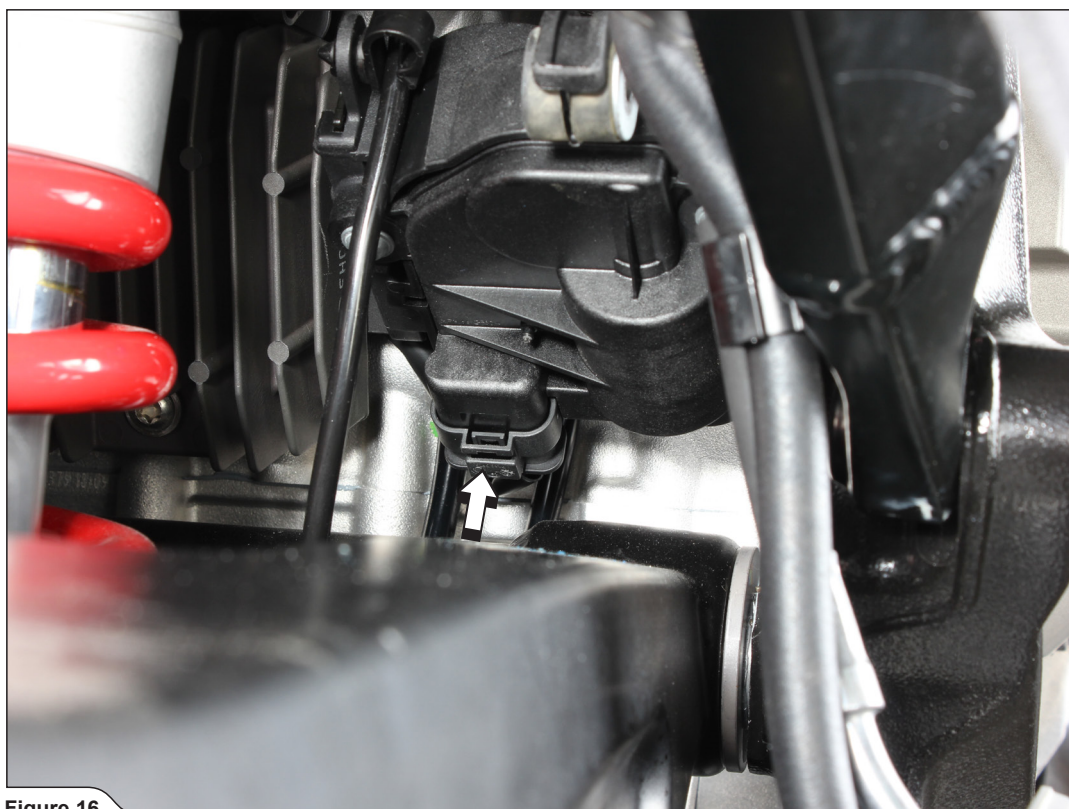

Figure 16
11. Undo the electrical connector and carefully remove the servo motor with cables off the motorcycle (**Figure 16**).